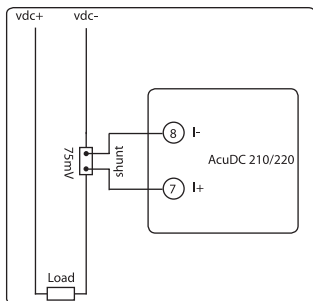

Fig 2.12 Current input wiring with Shunt
- 2) Current Shunt option (shown in Fig. 2.12);